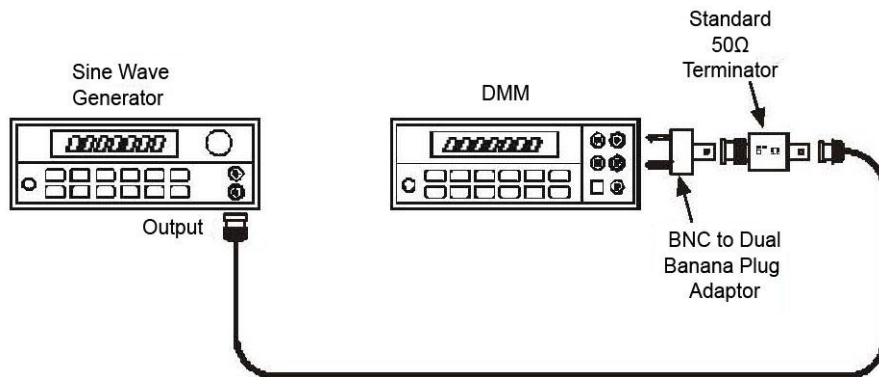

Figure 14, $\div 10$ Attenuator Accuracy
- Connect the terminated output cable from the sine wave generator to the DMM using the BNC to Banana Plug adaptor. Refer to Figure 14.